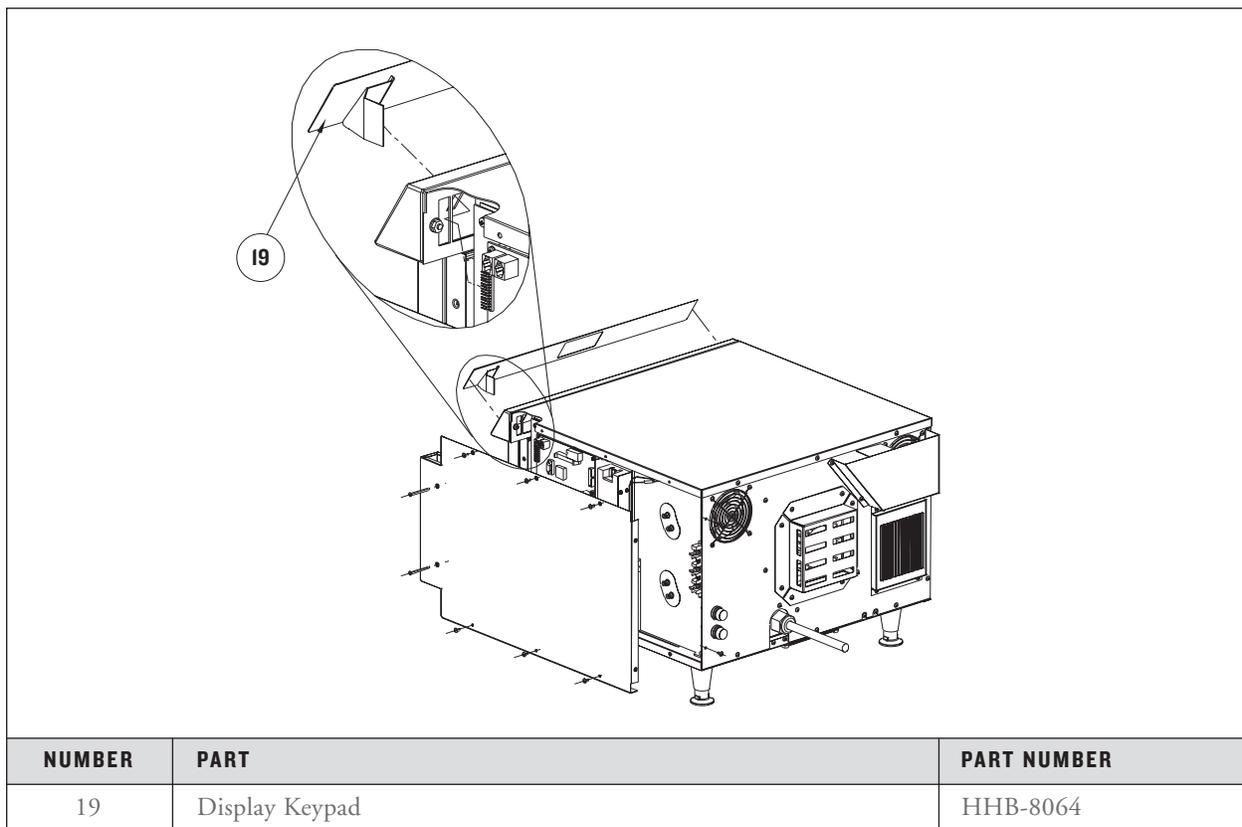

FIGURE 42: Replacing the Display Keypad
5. Route the new keypad cable through correct openings (Figure 42).
Display Keypad (Figure 42)